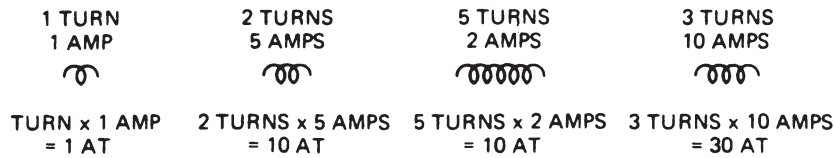

FIGURE 2-17 Ampere-turns.
The magnetizing force of a coil is based on the ampere-turns (AT) of the coil. The ampere-turns of a coil are equal to the amount of current flowing through the coil multiplied by the number of turns. In Figure 2-17, the ampere-turn rating of different coil-current combinations is given.